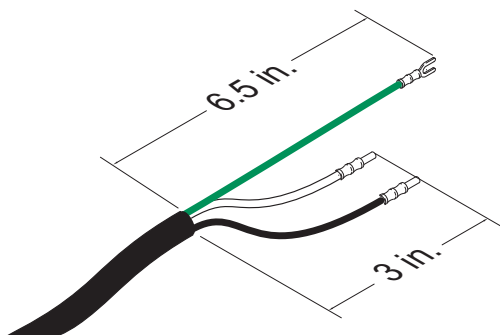

FIG. 5: Power Cord
- Add ferrules as necessary. See FIG. 5.